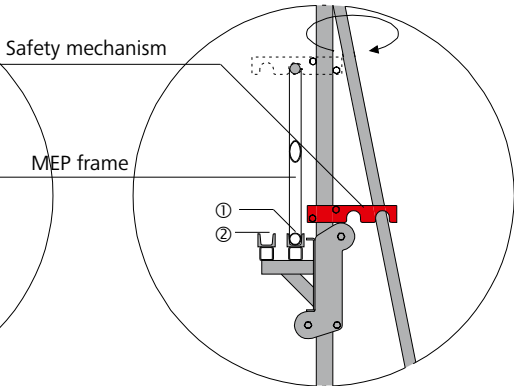

Fig. 28.4
- Turn the safety mechanism to the back before adjusting the height of the slab table (Fig. 28.4).